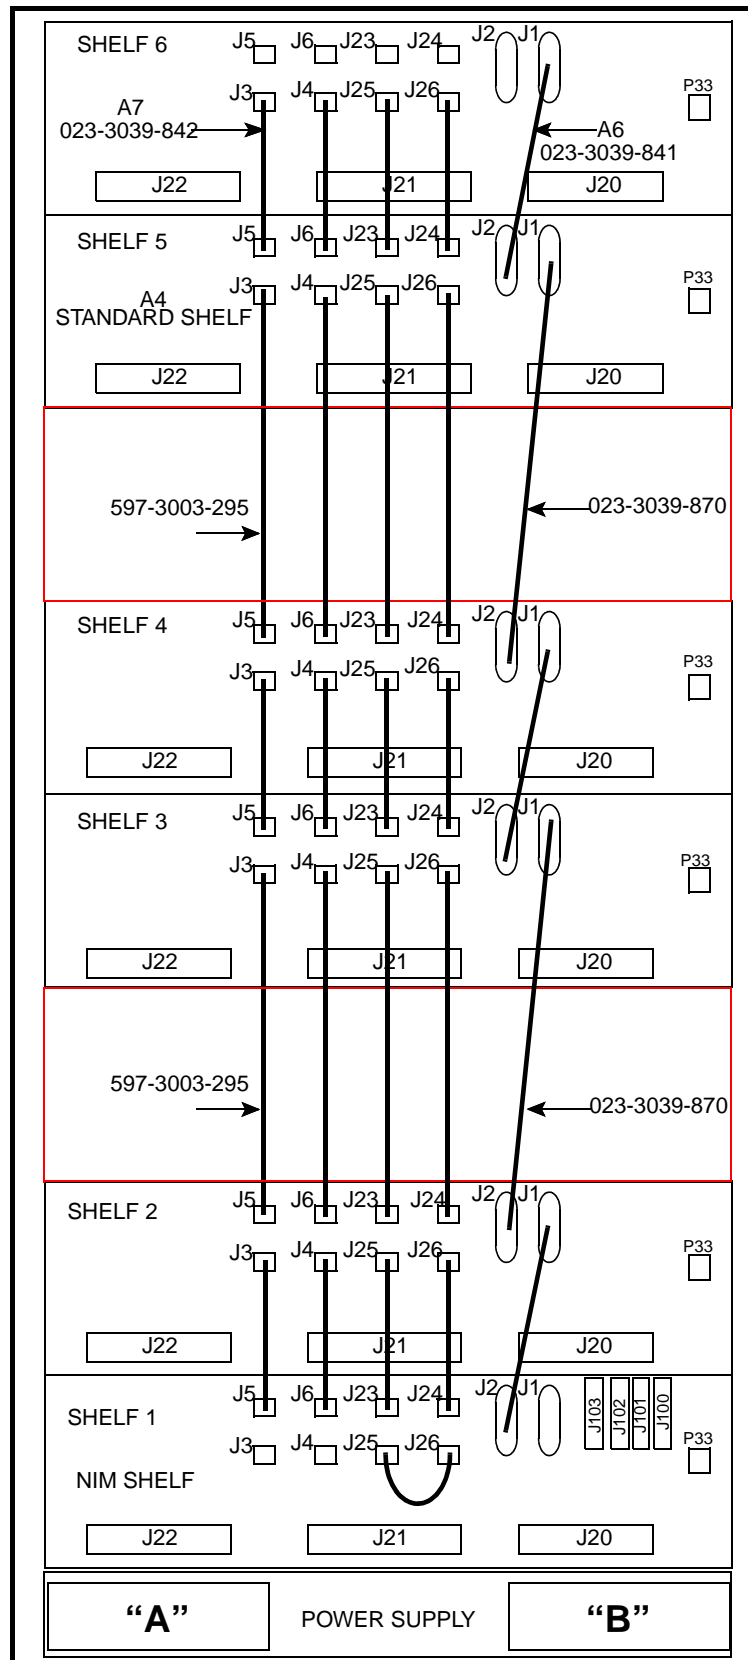

Figure 4-5 SIX SHELF 3000 SERIES SWITCH BACKPLANE CABLES
6. Loop Primary Tx PCM to the Primary Rx PCM by connecting a cable (023-3039-842) from Shelf 1-J3 to Shelf 1-J4 (see Figure 4-5).